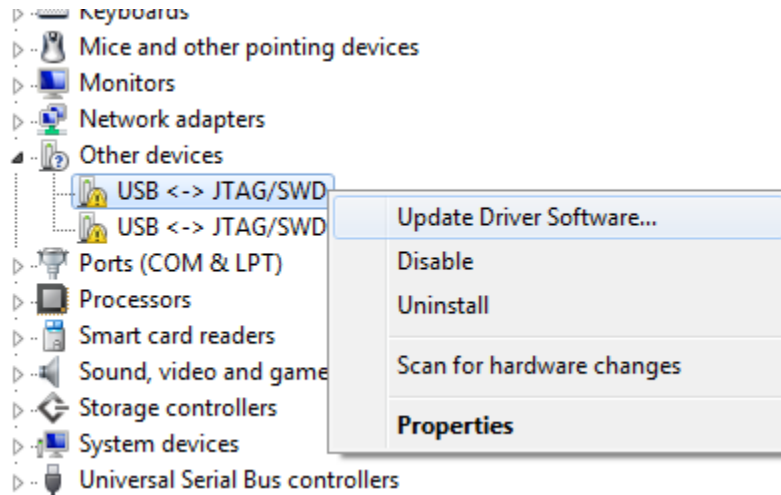

Figure 2. Windows Device Manager
2. Open the Windows Device Manager by selecting *Start Menu > Control Panel > Device Manager*. The CC3200-LAUNCHXL will appear as two instances of “USB <-> JTAG/SWD” under the category *Other Devices* as shown in Figure 2. For both of these instances, the driver software will need to be updated.